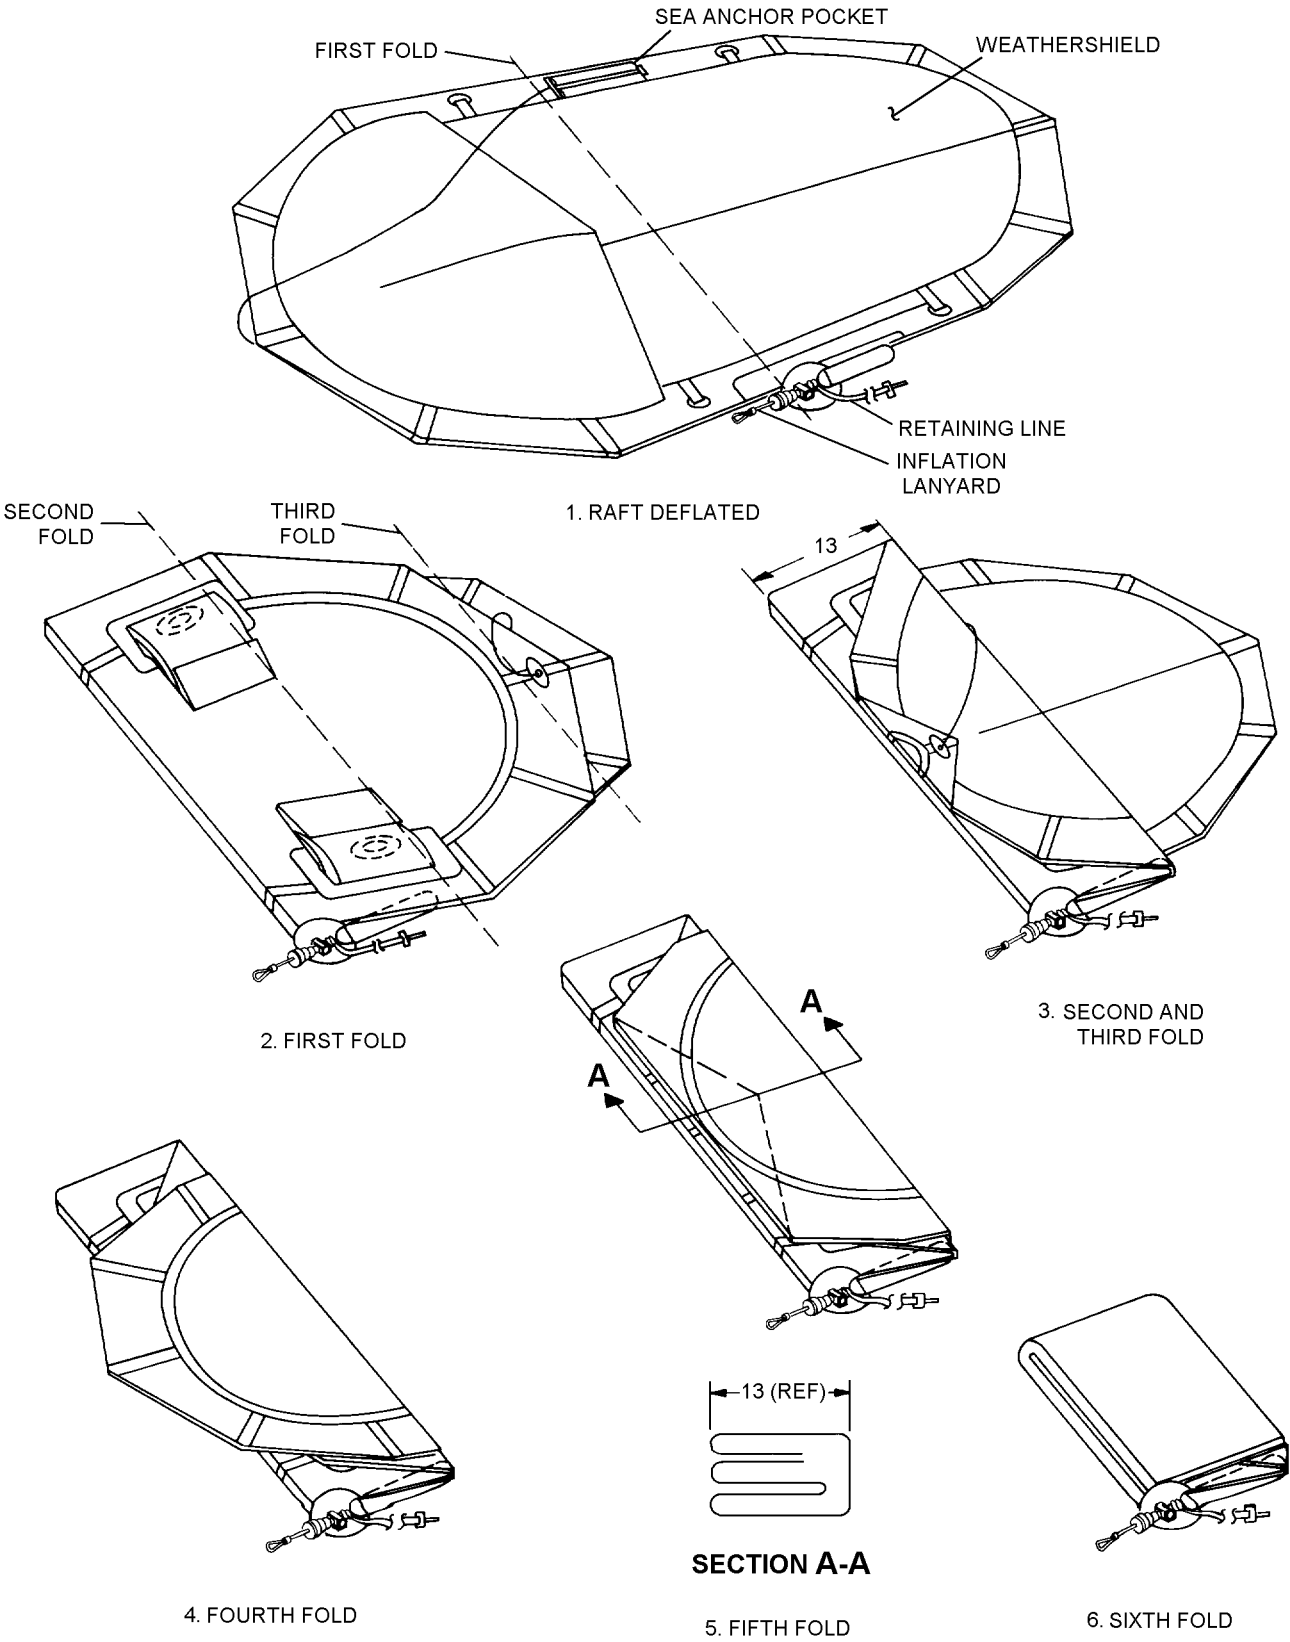

Figure 4-12. Folding LR-1 for Helicopter Back Pack
7. Fold liferaft in accordance with Figure 4-12.